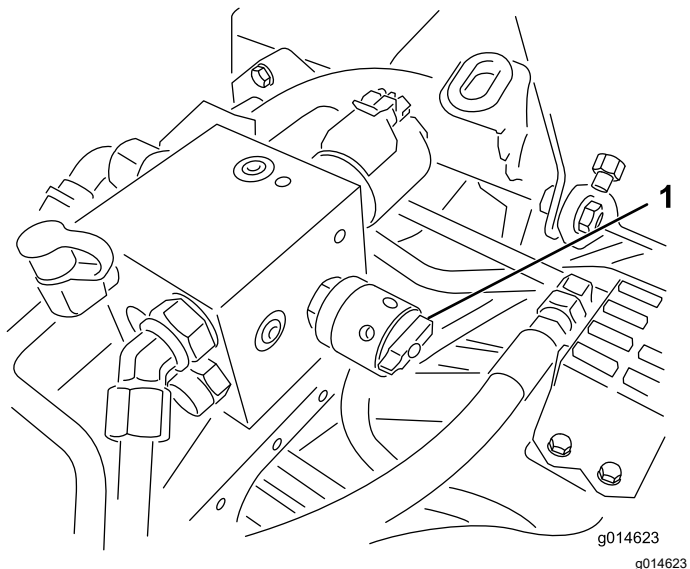

Figure 52
6. Rotate the reel-speed control to setting 1 (Figure 52).
4. Adjust the reel speed by rotating the knob (Figure 52) until the indicator arrows are in line with the number you determined in step 3.